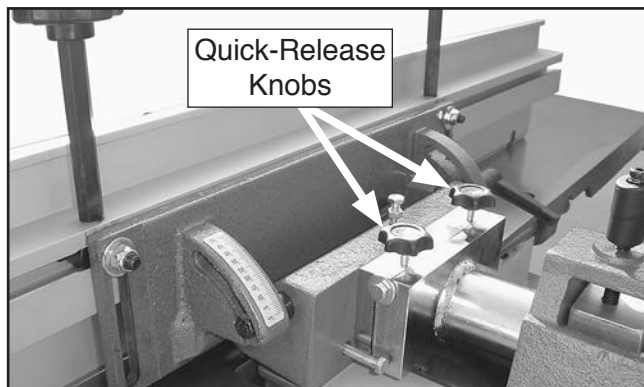

Figure 37. Location of quick-release knobs (G0634Z).
2. **G0634Z:** Loosen quick release knobs (see **Figure 37**) and slide fence off of machine.